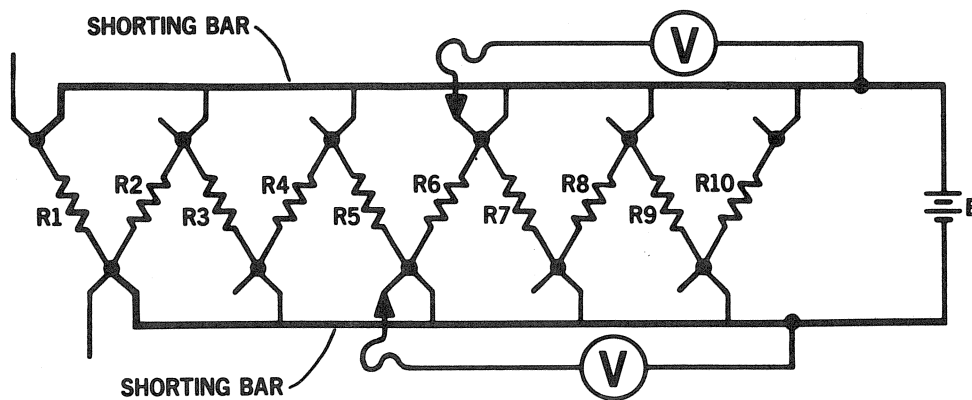

Figure 4-20. Measuring  $r/R$
The value of  $r/R$  can be found by measuring the voltage drops from a point on the shorting bars to the junction of adjacent resistors, shown in Figure 4-20. This is done as follows:
1. Connect the shorting bars and a DC Generator to the bank of resistors for parallel use, as shown in Figure 4-20.
2. Connect one lead of a voltmeter to one of the terminals on one of the shorting bars, as shown in Figure 4-20.